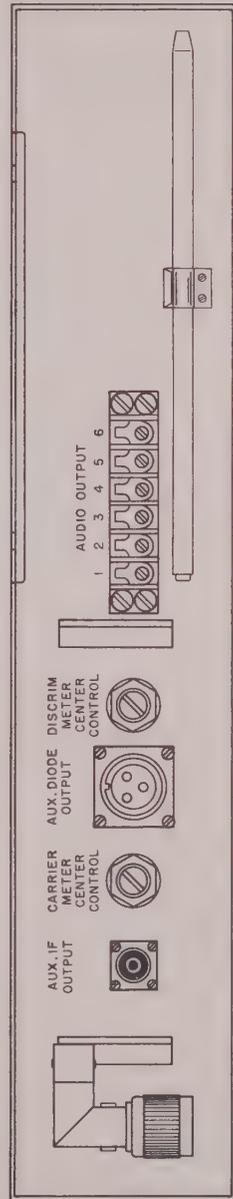

Figure 26. Front panel and rear chassis controls.
c. Inspect all front panel and rear apron controls and jacks for looseness, binding, and damage (fig. 26). Check fuses at rear of power supply (fig. 5).
a. Radio Receiver R-220/URR, Front Panel Controls (fig. 26).
b. Radio Receiver R-220/URR, Rear Apron Controls (fig. 26).